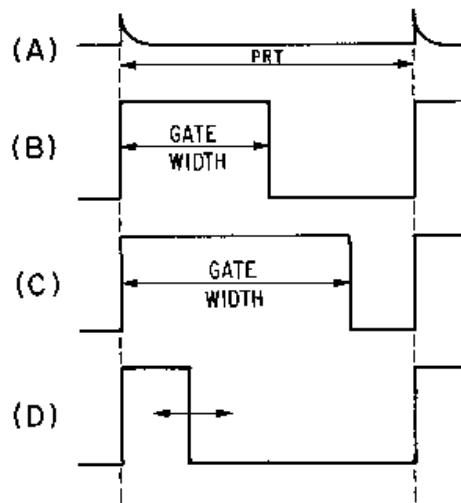

Figure 3-16.—Monostable multivibrator waveforms with a variable gate.
Note that R3 is variable to allow adjustment of the gate width. Increasing R3 increases the discharge time for C1 which increases the cutoff time for Q2. Increasing the value of R3 widens the gate. To decrease the gate width, decrease the value of R3. Figure 3-16 shows the relationships between the trigger and the output signal. View (A) of the figure shows the input trigger; views (B) and (C) show the different gate widths made available by R3. Although the durations of the gates are different, the duration of the complete cycle remains the same as the pulse repetition time of the triggers. View (D) of the figure illustrates that the trailing edge of the positive alternation is variable.